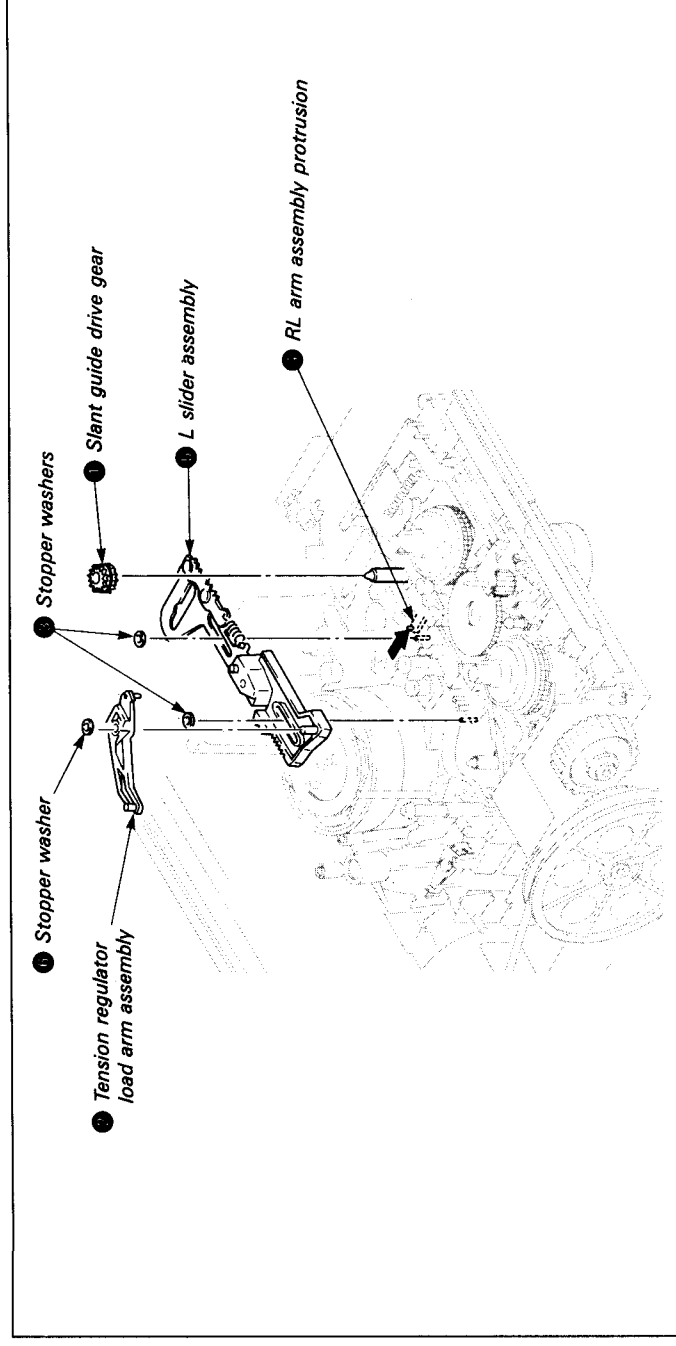

Fig. 7-30.
7-3-11. L Slider Assembly (See Fig. 7-30. ~32.)
- 6) Remove the tension regulator load arm assembly according to 7-3-11., 1. Removal, 8). (See Fig. 7-30.)
- 7) Remove tension spring ①.
- 8) Remove the two stopper washers ② and remove the S main brake assembly ③ and T main brake assembly ④.
- 10) Remove the screw ⑤ and the drive assembly ⑥.
- 12) Remove the two tension springs ⑦.
- 13) Remove REW brake assembly ⑧.
- 14) Remove stopper washer ⑨ and B release slider ⑩.
- 15) Remove stopper washer ⑪ and ring lock spring ⑫ and RL arm ⑬.
- 16) Move the M slider ⑭ to the right (leave about 5 mm at the left.)